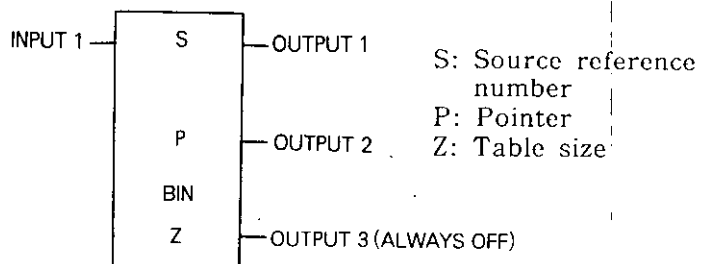

Fig. 5.72 BIN General Form
- Fig. 5.72 shows the form of BCD → BIN conversion.